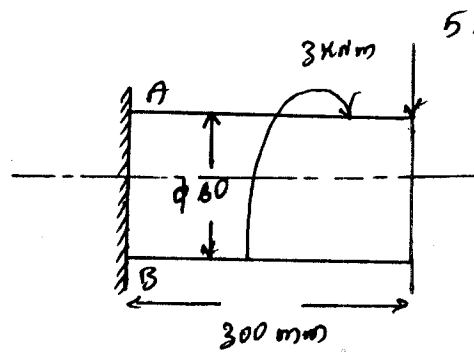

Fig.Q1(c)
c. A circular rod of 60 mm diameter is subjected to bending load and torsional load of shown in Fig.Q1(c). Determine the nature and magnitude of stresses at the critical points.